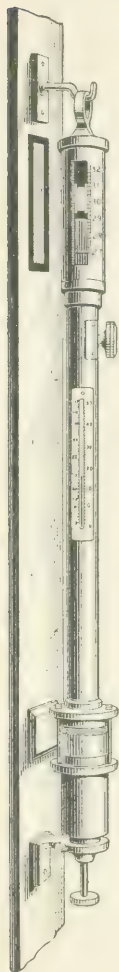

FIG. 17.
50. A standard form of barometer is shown in Fig. 17. The barometer is simply a pressure gauge that registers the pressure of the air. In this case the cup and tube at the bottom are protected by a brass or iron casing. At the top of the tube is a graduated scale. Attached to the casing is an accurate thermometer for determining the temperature of the outside air at the time the barometric observation is taken. This is necessary, since mercury expands when the temperature is increased and contracts when the temperature falls; for this reason a standard temperature is assumed, and all barometer readings are reduced to this temperature. This standard temperature is usually taken at 32° F., at which temperature the height of the mercurial column is 30 inches under normal conditions at sea level. Another